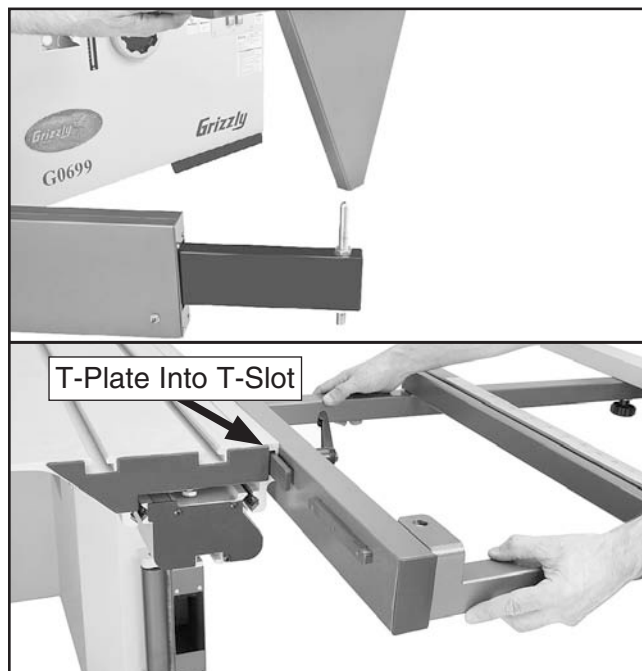

Figure 46. Installing the crosscut table into the sliding table.
51. With the help of another person, place the crosscut table on the swing arm pivot pin, as shown in **Figure 46**, then slide the T-plate into the sliding table T-slot.